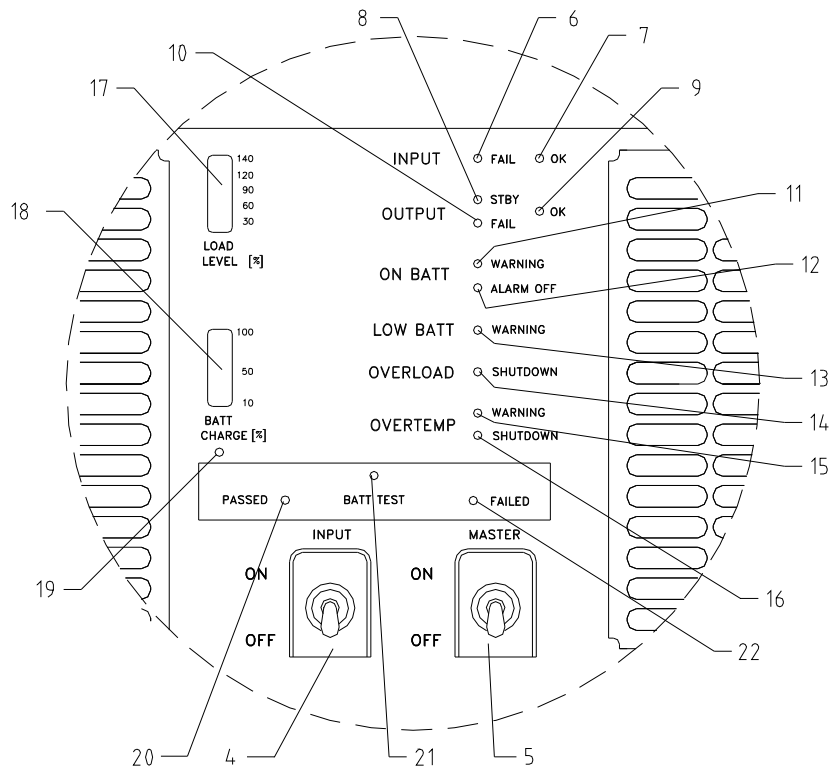

Figure 5 – Front Panel: Indicators and Switches
2. Visual Indicators and Switches (for detailed view see Figure 5).
4.2 Front Panel: Indicators and Switches (See Figure 5)